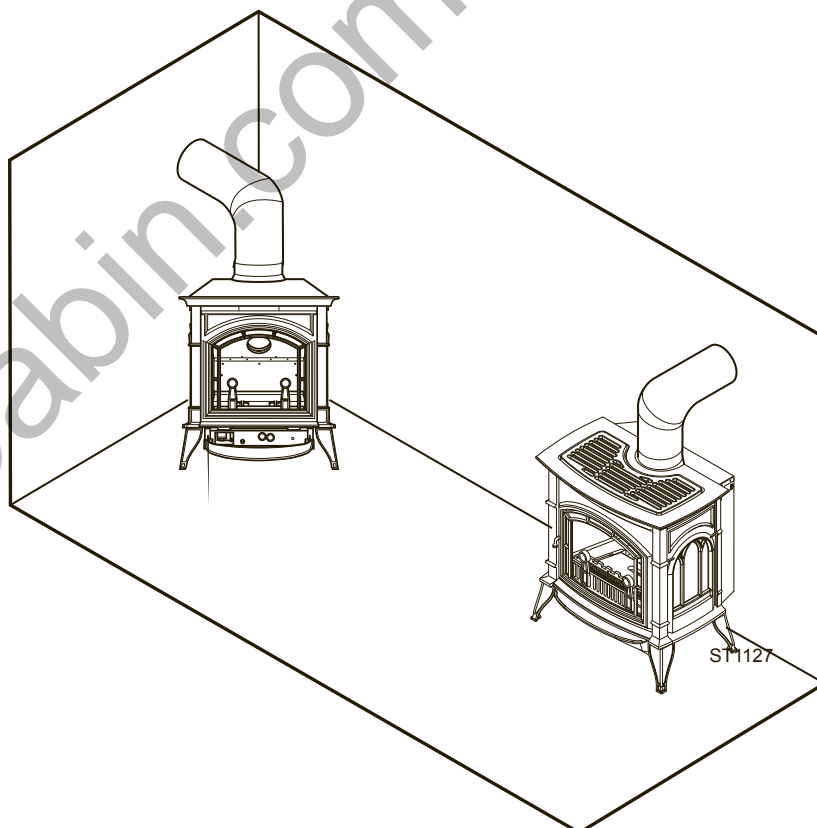

Figure 3 - Possible Stove Locations
- This stove may be installed along a wall, across a corner, or use an exterior chase. *Refer to Figure 3 for suggested locations.*